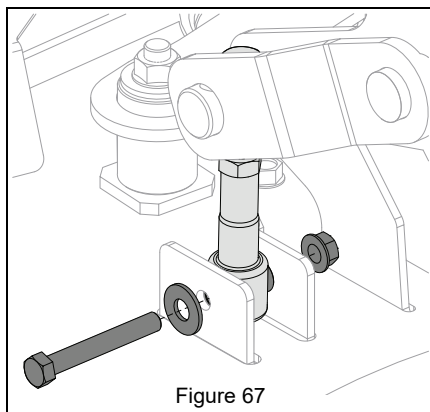

Figure 67
9. Remove hardware retaining deck-lift links to mower deck. See Figure 67.